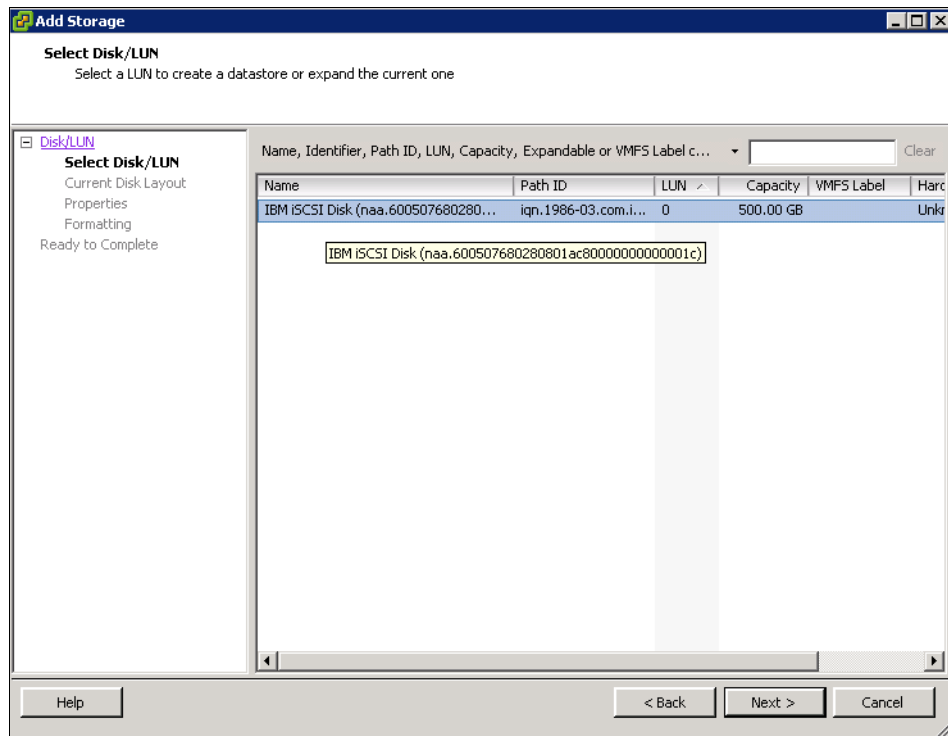

Figure 12-56 Select iSCSI LUN menu
8. The new iSCSI LUN displays. Highlight it and click **Next** (Figure 12-56).